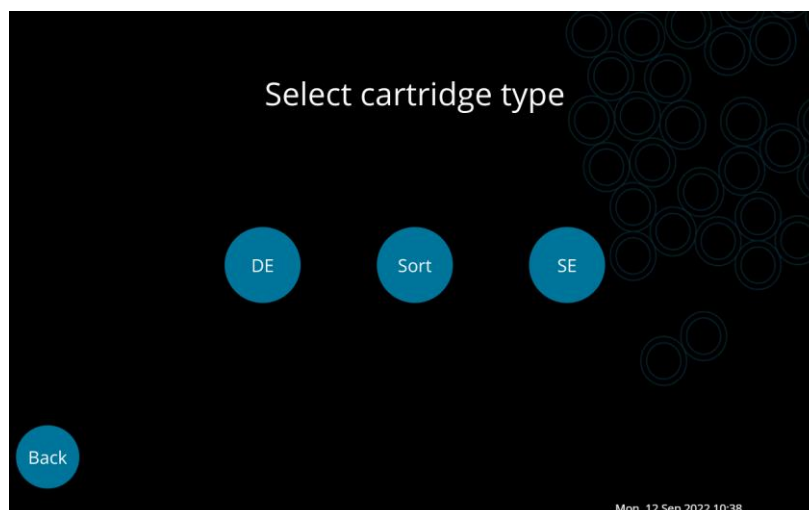

Fig. 2.8. The Xdrop Sort Select cartridge type screen. Select DE for DE20 droplet runs.
5. Xdrop Sort can operate with either Xdrop DE20, DE20 Sort, or Xdrop SE85 Cartridges. Choose the DE20 droplet option by selecting **DE** on the touchscreen (**Fig. 2.8**).